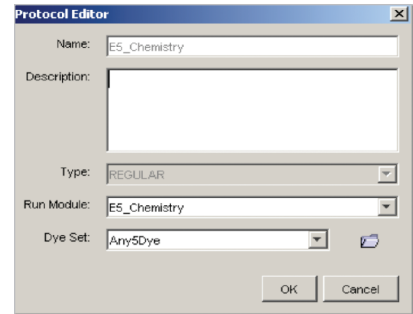

Figure 8. New Regular Run protocol created for running SNaPshot kit samples.
2. Click the New button in the Instrument Protocols area, and the Protocol Editor window will appear (Figure 8).